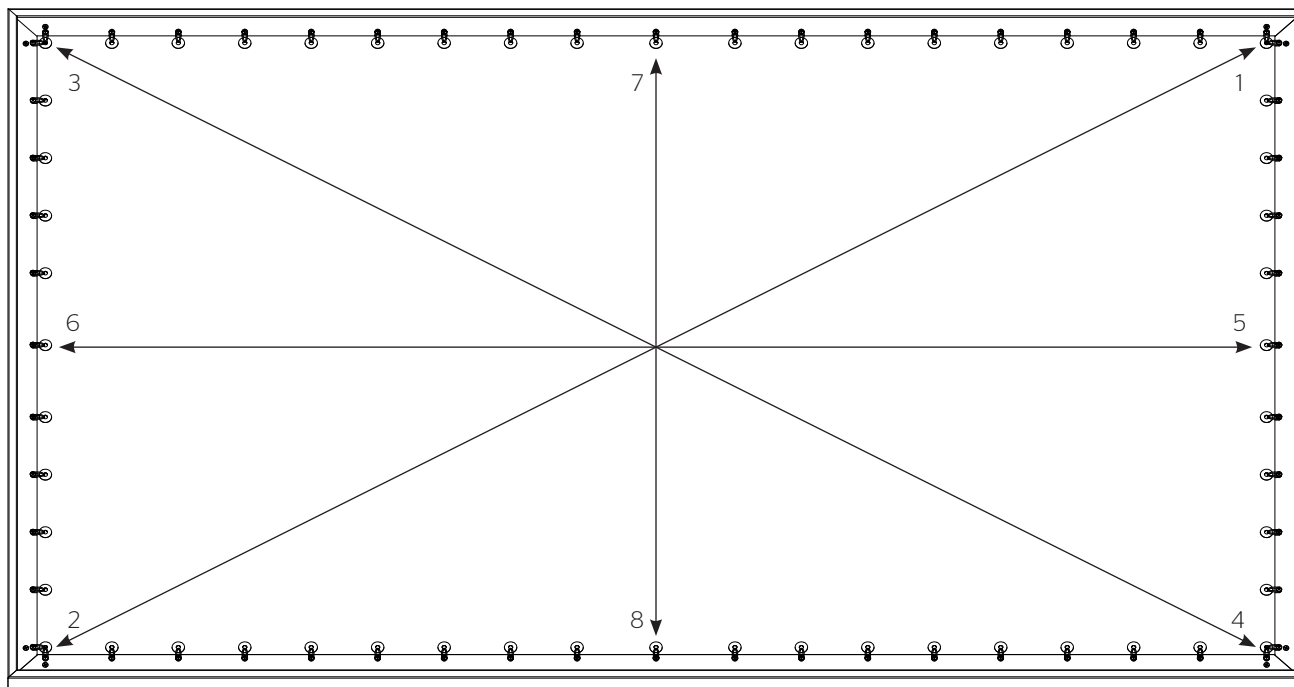

Figure 4
- Repeat Step 3 for the remaining three corners of the screen. Use the sequence shown in Figure 4.
- Insert one elastic ring into the center hole on the right, left, top and bottom of the screen surface and secure it over the stud. Use the sequence shown in Figure 4.